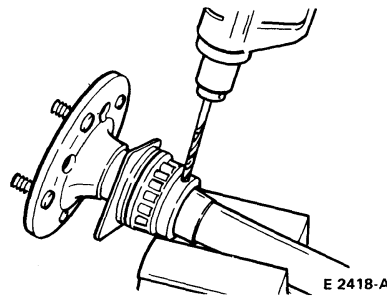

FIG. 6 Drilling Retainer Ring
1. Drill a 1/4-inch hole in the outside diameter of the inner retainer to a depth approximately 3/4 the thickness of the retainer ring. Do not drill all the way through the retainer ring because the drill could damage the axle shaft (Fig. 6).